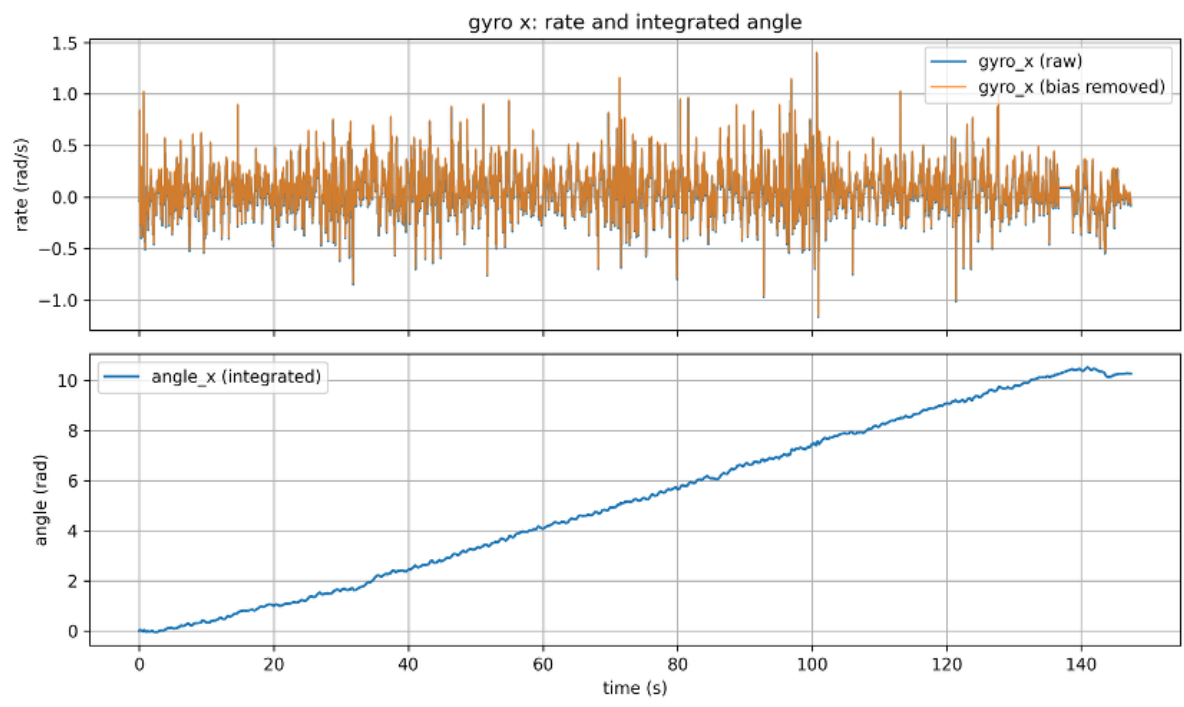

Figure 2: Gyroscope X-axis: rotational rate and integrated rotation
**Task:** Plot rotational rate around X and rotation from the gyro around X (integrate once) on two subplots (Fig. 2).